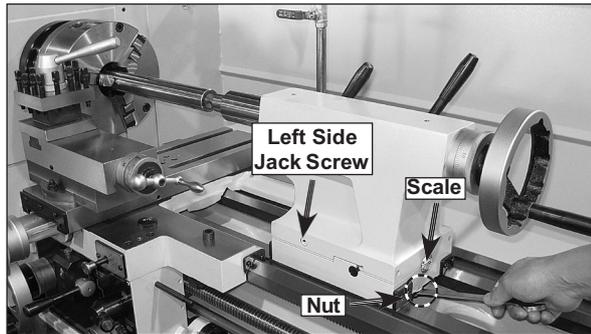
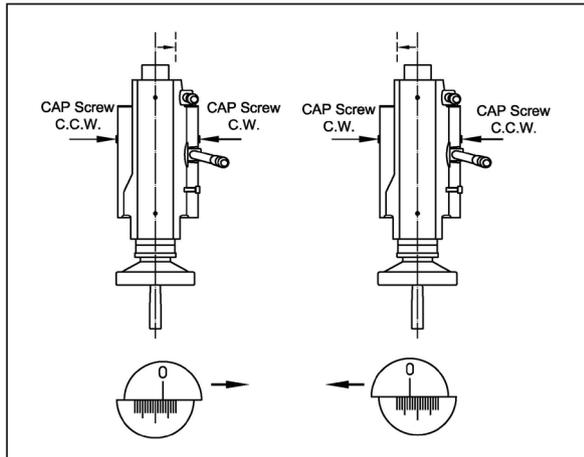

Figure 26. Tailstock offset adjustments.
Figure 27. Jack screw adjustment versus tailstock movement.
2. Loosen two nuts of bottom, adjust the left and right jack screws until the scale (Figure 26) indicates the offset you want. See Figure 27 for adjustment direction.